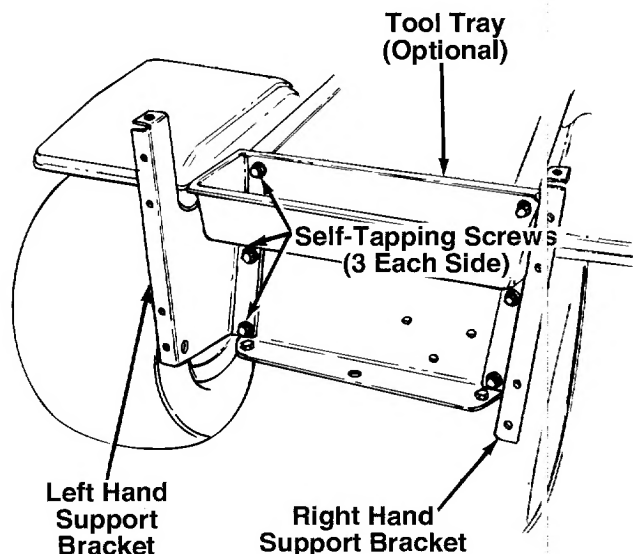

FIGURE 8.
- a. Remove six self-tapping screws from the rear of the lawn tractor. On some units, two of these screws will hold either a tool tray or a fender panel. See figure 8.
- b. Place the right and left hand grass catcher support brackets in position as shown in figure 8. Secure support brackets (and tool tray or fender panel if so equipped) to the tractor frame with self-tapping screws removed in step a.